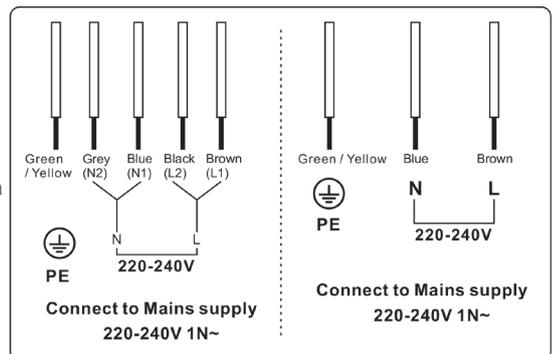

fig.1
- The "blue" "grey" neutral wire must be connected to the terminal marked with letter (N) - the "Black" "brown" live wire (L) must be connected to the terminal marked with letter (L) (220-240V 1N~). see Fig.1.
- This appliance must be wired into a 40A double pole switched fused spur outlet, having 3 mm contact separation and placed in an easily accessible position adjacent to the appliance. It should not be located above the appliance and no more than 1.25m away from it. See Fig.1.
- The "blue" "grey" neutral wire must be connected to the terminal marked with letter (N) - the "Black" "brown" live wire (L) must be connected to the terminal marked with letter (L) (220-240V 1N~). See Fig.1.